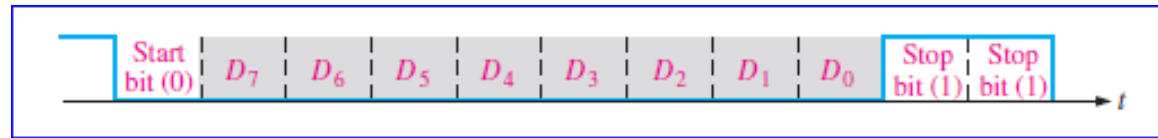

FIGURE 32 Serial data format.
- To illustrate the operation of this serial-to-parallel converter, the serial data format shown in Figure 32 is used. It consists of eleven bits. The first bit (start bit) is always 0 and always begins with a HIGH-to-LOW transition. The next eight bits (D_7 through D_0) are the data bits (one of the bits can be parity), and the last one or two bits (stop bits) are always 1s. When no data are being sent, there is a continuous HIGH on the serial data line.